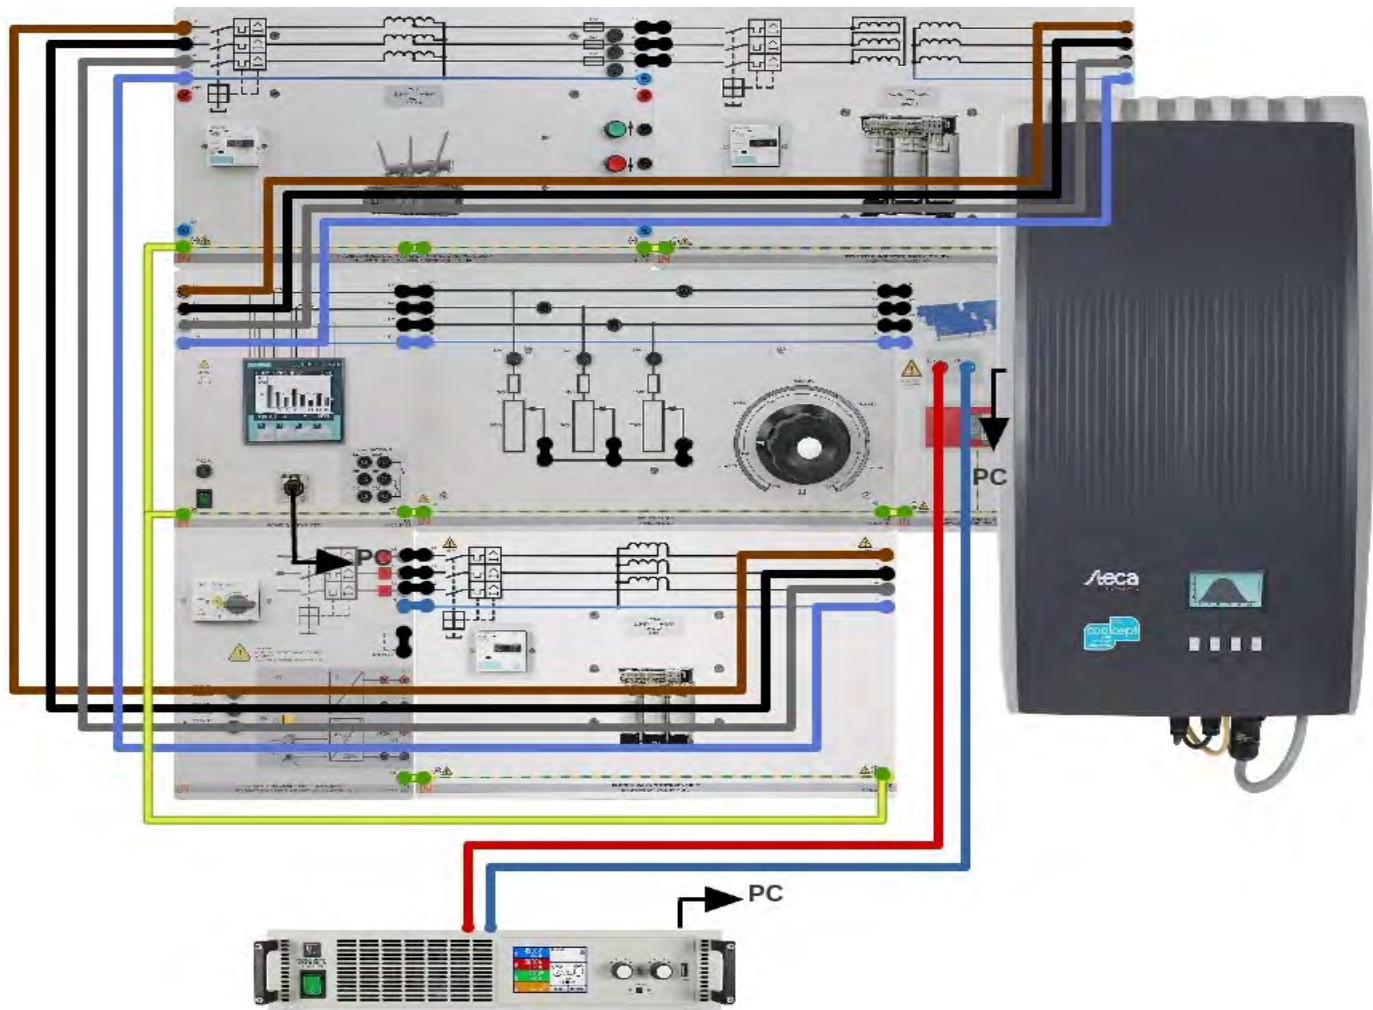

Figure 2
1. Assemble the circuit in accordance with the layout and wiring diagram of Figure 2.